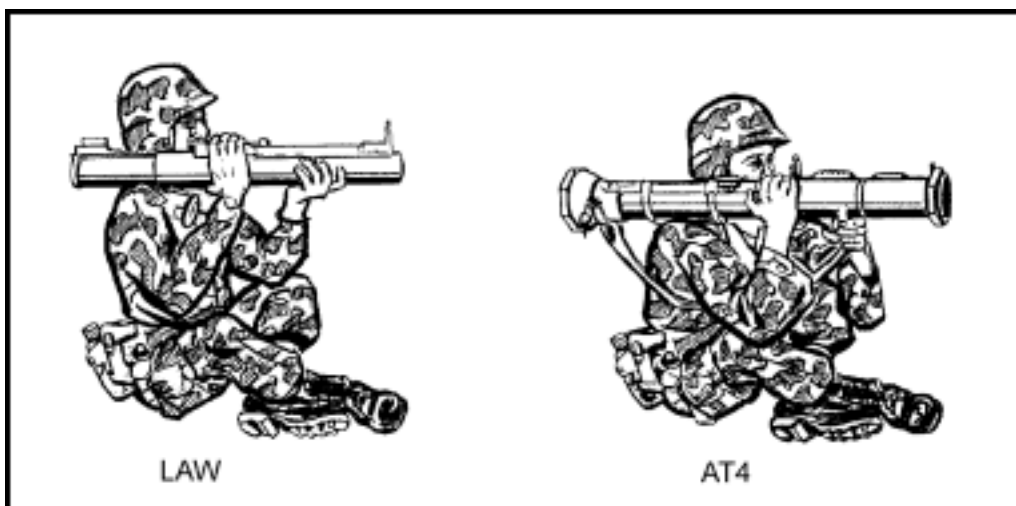

Figure 5-7. Modified sitting positions.**5-4. PRONE POSITION**
b. **Modified Sitting Position.** From the basic sitting position, cross your ankles for added support. Raise or lower your knees to adjust for elevation on the target. Figure 5-7 shows the modified sitting positions for the LAW and AT4.